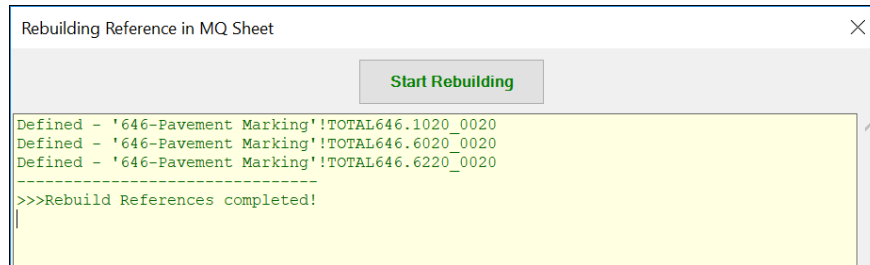

Figure 6.2 “Rebuilding reference in MQ Sheet” dialog box after references have been built.
3. Select **Q2P > MQ Sheet > Rebuild References** to bring up the "Rebuilding reference in MQ Sheet" dialog box (Figure 6.2) and select "Start Rebuilding" to create the proper named ranges for the bid item total(s).